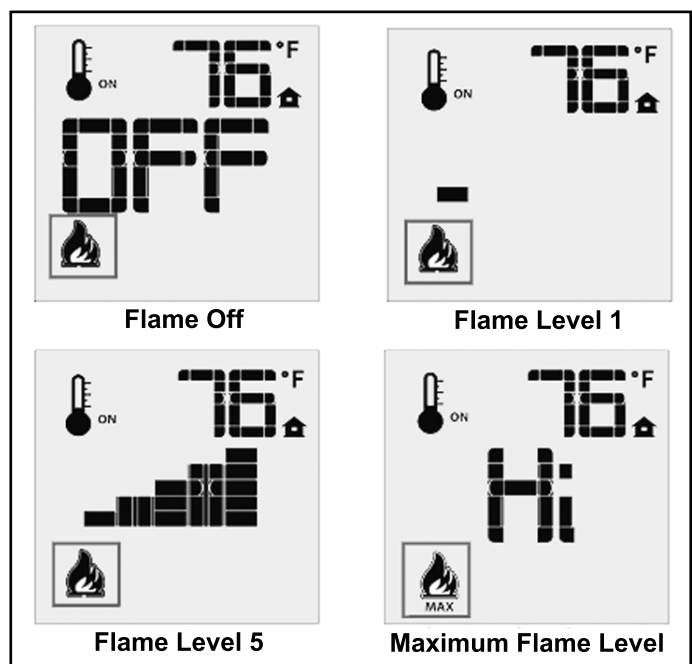

Figure 11: Remote Control's Flame Levels.
The Proflame 2 remote control system has six (6) flame levels. With the system on, and the flame level at the maximum in the appliance, pressing the Down Arrow Key once will reduce the flame height by one step until the flame is turned off. The Up Arrow Key will increase the flame height each time it is pressed. If the Up Arrow Key is pressed while the system is on but the flame is off, the flame will come on in the high position (refer to Figure 11). A single “beep” will confirm reception of the command.